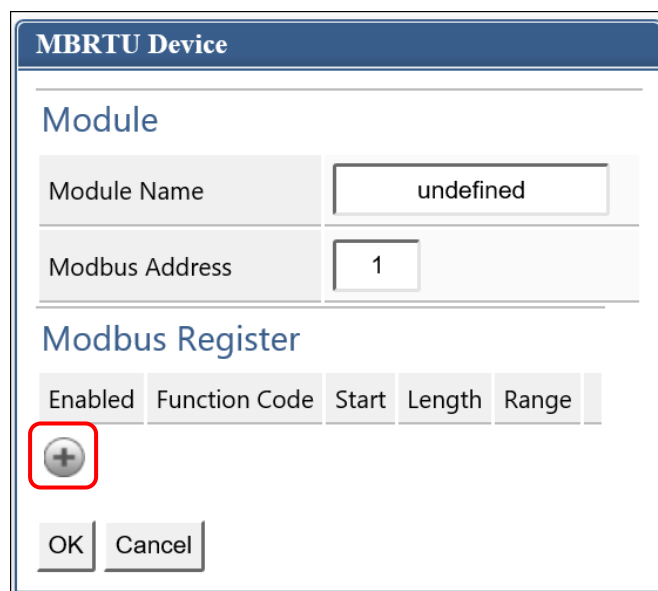

Figure 2.10 Add Modbus RTU Slave Module/Register window
Step2 Following the Figure 2.10, click the icon " + " at the bottom of Modbus RTU Slave module to add a Modbus RTU Register, and set the Modbus Function Code, Start address, Length and Range of the Register.